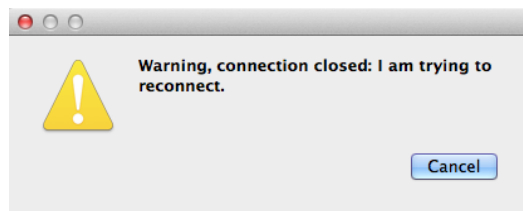

Figure 7: **Do NOT press “Cancel”**.
9. Unplug the USB cable from the robot. Even though the USB cable is long and light, it will still affect the robot’s motion. Hence, in most cases, it is recommended that you unplug the robot before hitting “Go”. A dialog box will appear stating that the connection has been lost and that it is attempting to require the connection (Figure 7). **Do NOT press “Cancel”**. If you do, you will need to exit the application and restart it in order to reconnect the robot.